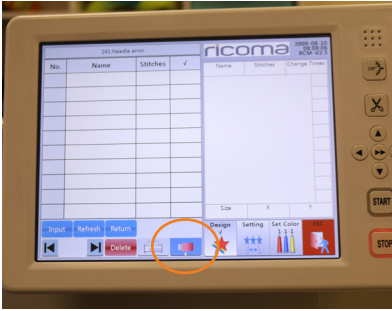

Figure 63
3. Press the Design key to enter the USB/embroidery machine’s memory interface. Select the USB icon. (The USB icon should be highlighted blue to indicate that it is selected.) **See Figure 63.**